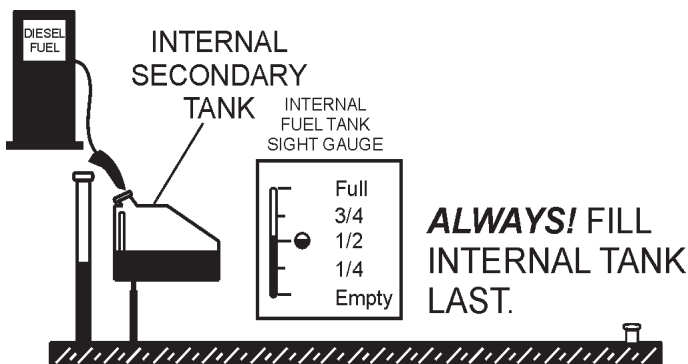

Figure 39. Filling Secondary Internal Fuel Tank
4. Once the trailer tank is full, the **secondary inner tank** can be filled (See Figure 39). Notice how the trailer filler tube level rises when the internal tank is filled.